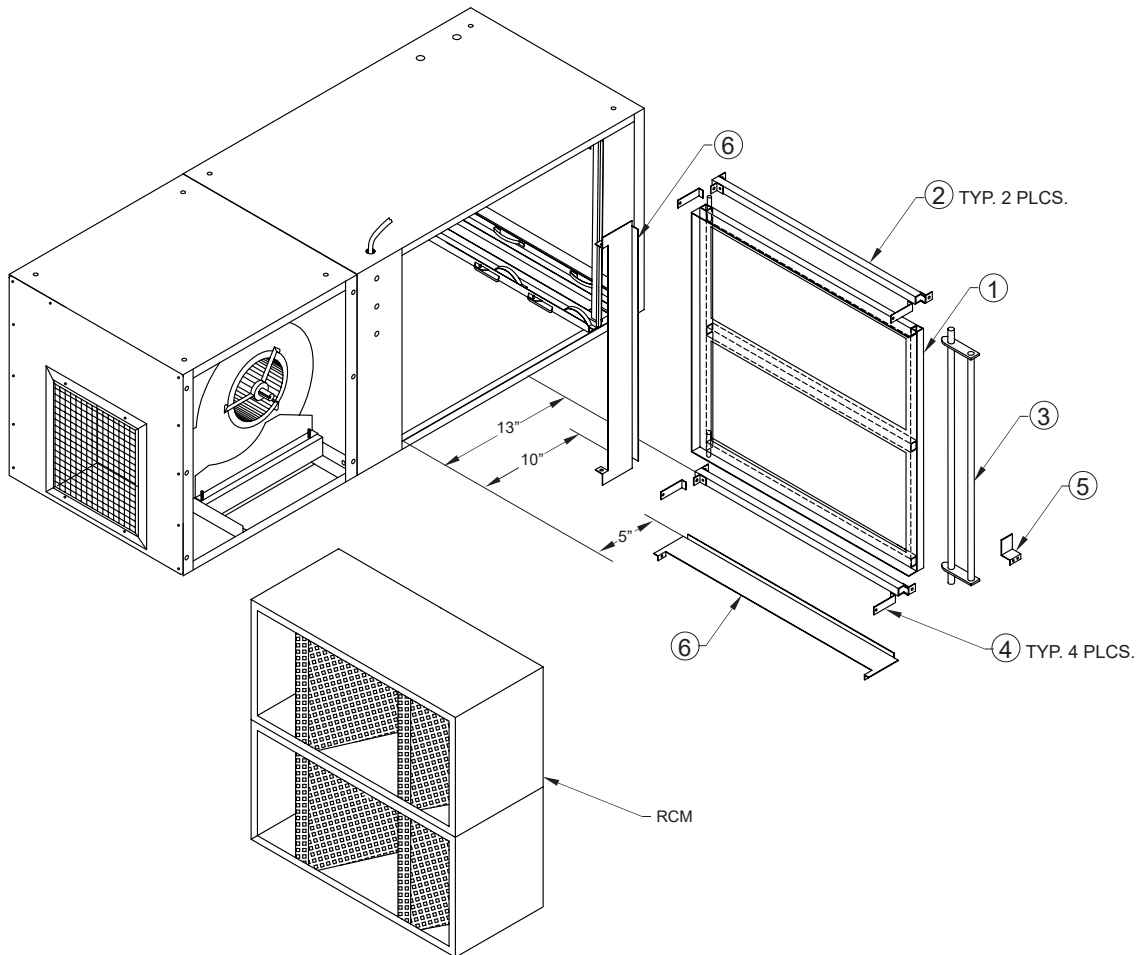

FIG. 4
1. On units with optional HEPA or charcoal filters, an adjustable filter track kit is used to complete the seal of these filters to the filter stop (See FIG. 4 & 5). If the unit was ordered with either a HEPA or charcoal filter, this adjustable filter track kit was included with the unit. If a HEPA or charcoal filter is ordered as an after-market item, the adjustable filter track kit should be ordered as well. Order Part No. 38036-01.